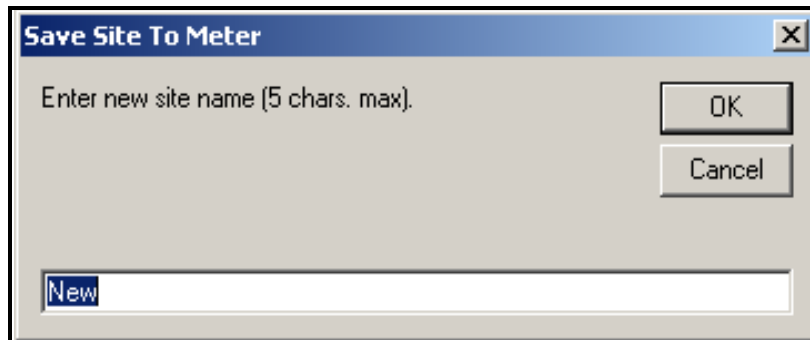

Figure 30: Site Name Entry Window
2. A window opens similar to Figure 30. Enter the desired name, and click [OK].